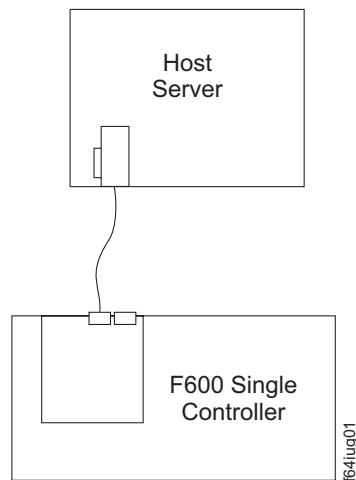

Figure 25. Example of a single server configuration with one adapter (Model 6LU/6LX)
- Single server configuration with one adapter (Figure 25)